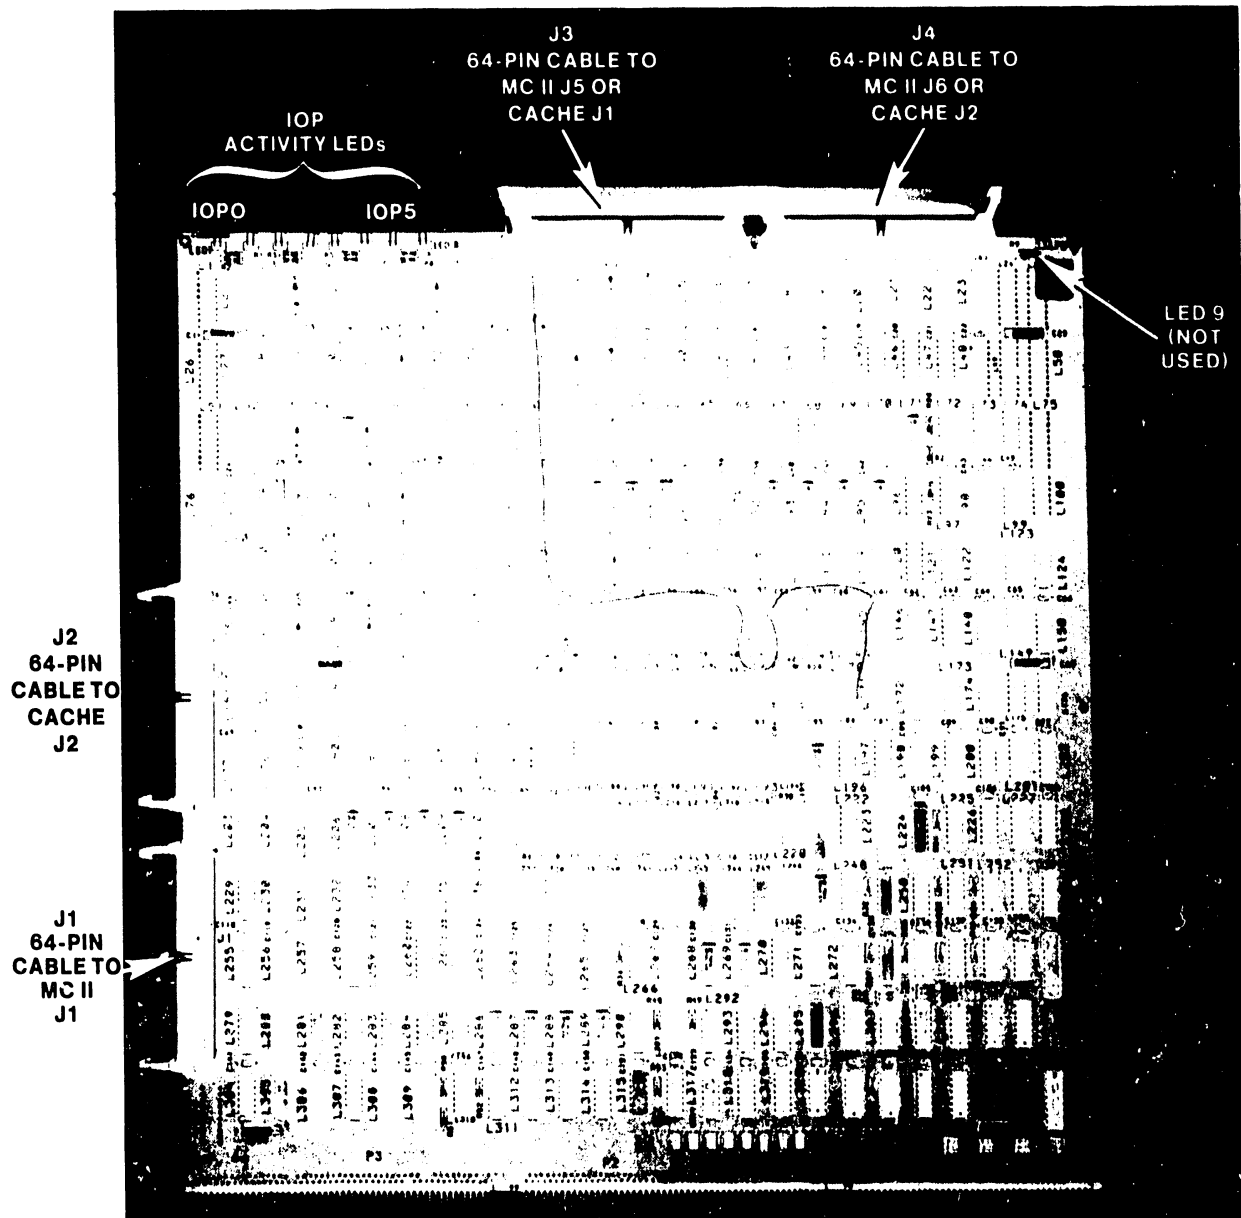

Figure 5-18. 210-8311 Bus Adapter Board
1. Before removing the Bus Adapter (BA) board (figure 5-18) from Motherboard slot #8, lower the fan assembly as described in paragraph 5.3.5.22. Remove the two Phillips screws securing the hinged cover over the fan safety screen inside the cabinet. Raise the cover, remove the screen, and turn the vertically mounted air flow baffle to the right. This allows access to the connectors on the rear of the circuit boards.